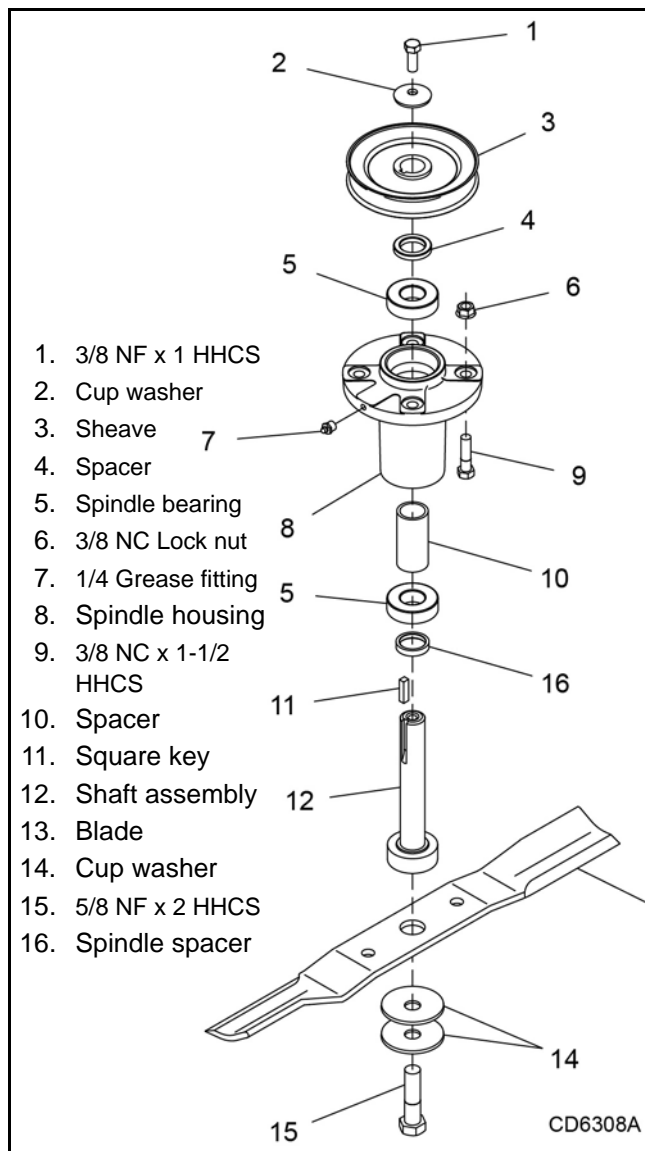

Figure 8. Blade Spindle Assembly
4. Remove nuts (6) and bolts (9) that secure spindle to mower. (See Figure 8.)